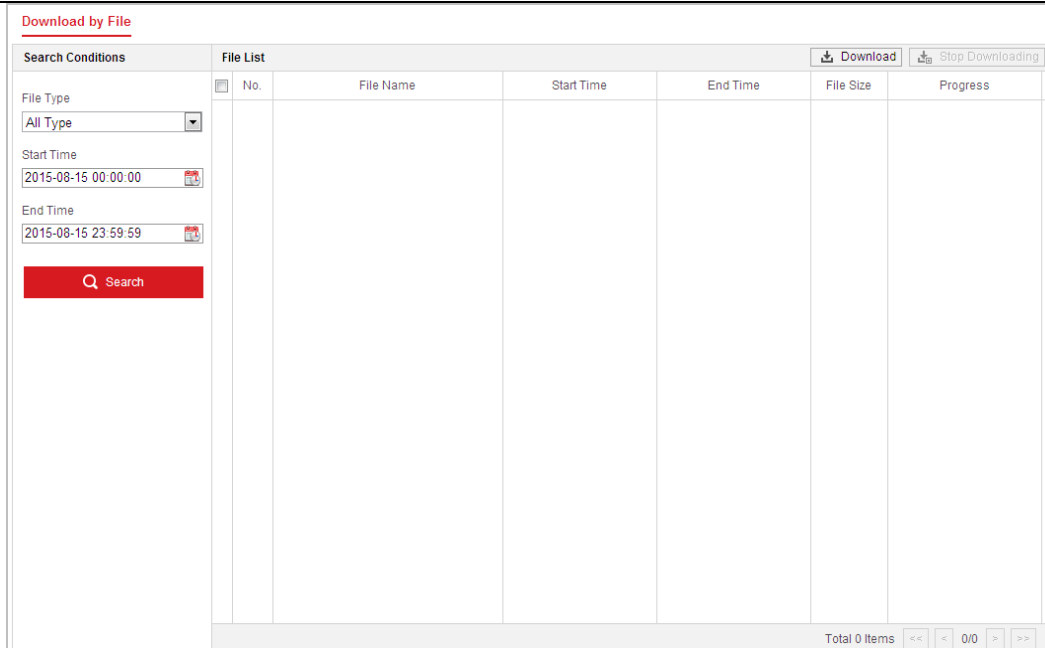

Figure 5-18 Video Downloading interface
1. Click  on the playback interface. The pop-up menu is shown in Figure 5-18.